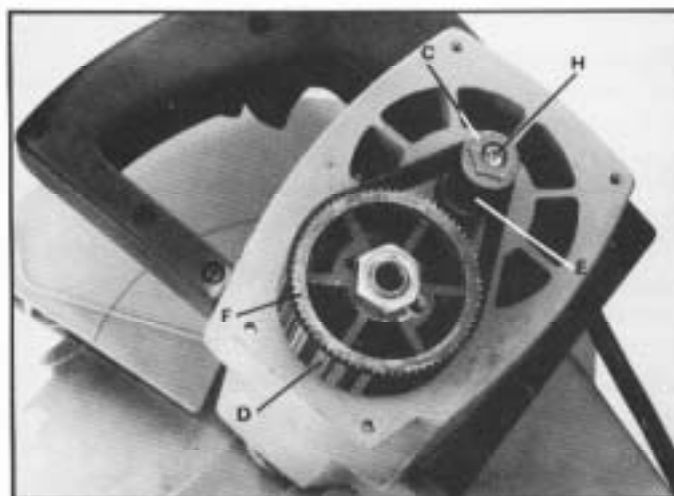

Fig. 34
3. Use a 5/8" wrench on hex of special washer (C) Fig. 34, to keep armature from turning, and remove screw (H) and special washer (C). Slide belt (D) off armature shaft (E) and arbor pulley (F).
5. Replace special washer (C) and screw (H) Fig. 34.